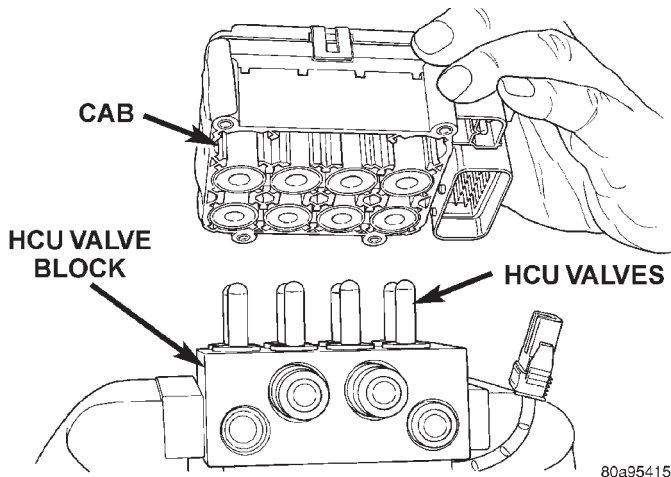

Fig. 16 Remove/Install CAB
(4) Remove the CAB from the HCU (Fig. 16).
(1) Install the CAB (Fig. 16) on the HCU.